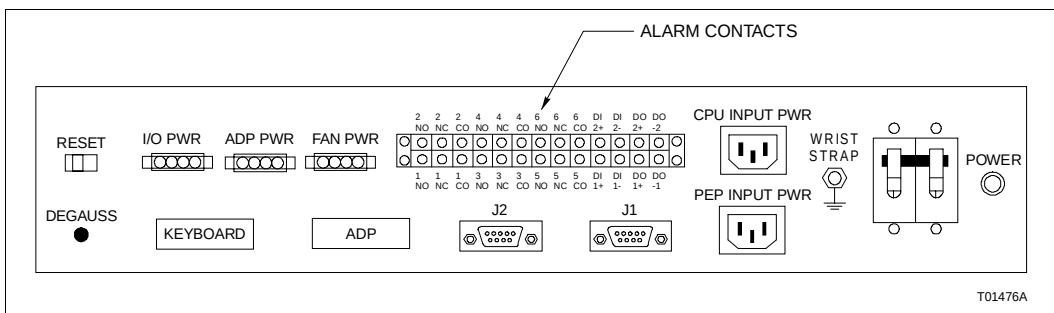

Figure PR5-5. Panel Mount Model Power Wiring
- ☐ 2. Connect the AC power into the IEC style PEP INPUT POWER connector on the rear of the PEP. Figure PR5-5 shows the rear of the PEP.